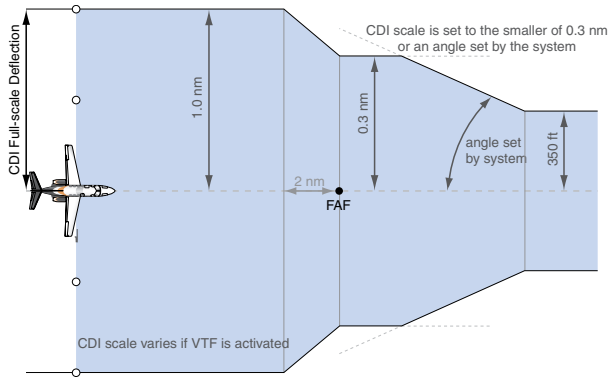

Figure 2-28 Typical LNAV and LNAV+V Approach CDI Scaling
- During **approach**, the CDI scale ramps down even further (Figures 2-28 and 2-29). This transition normally occurs within 2.0 nm of the Final Approach Fix (FAF). The CDI switches to approach scaling automatically once the approach procedure is active or if Vectors-To-Final (VTF) are selected.